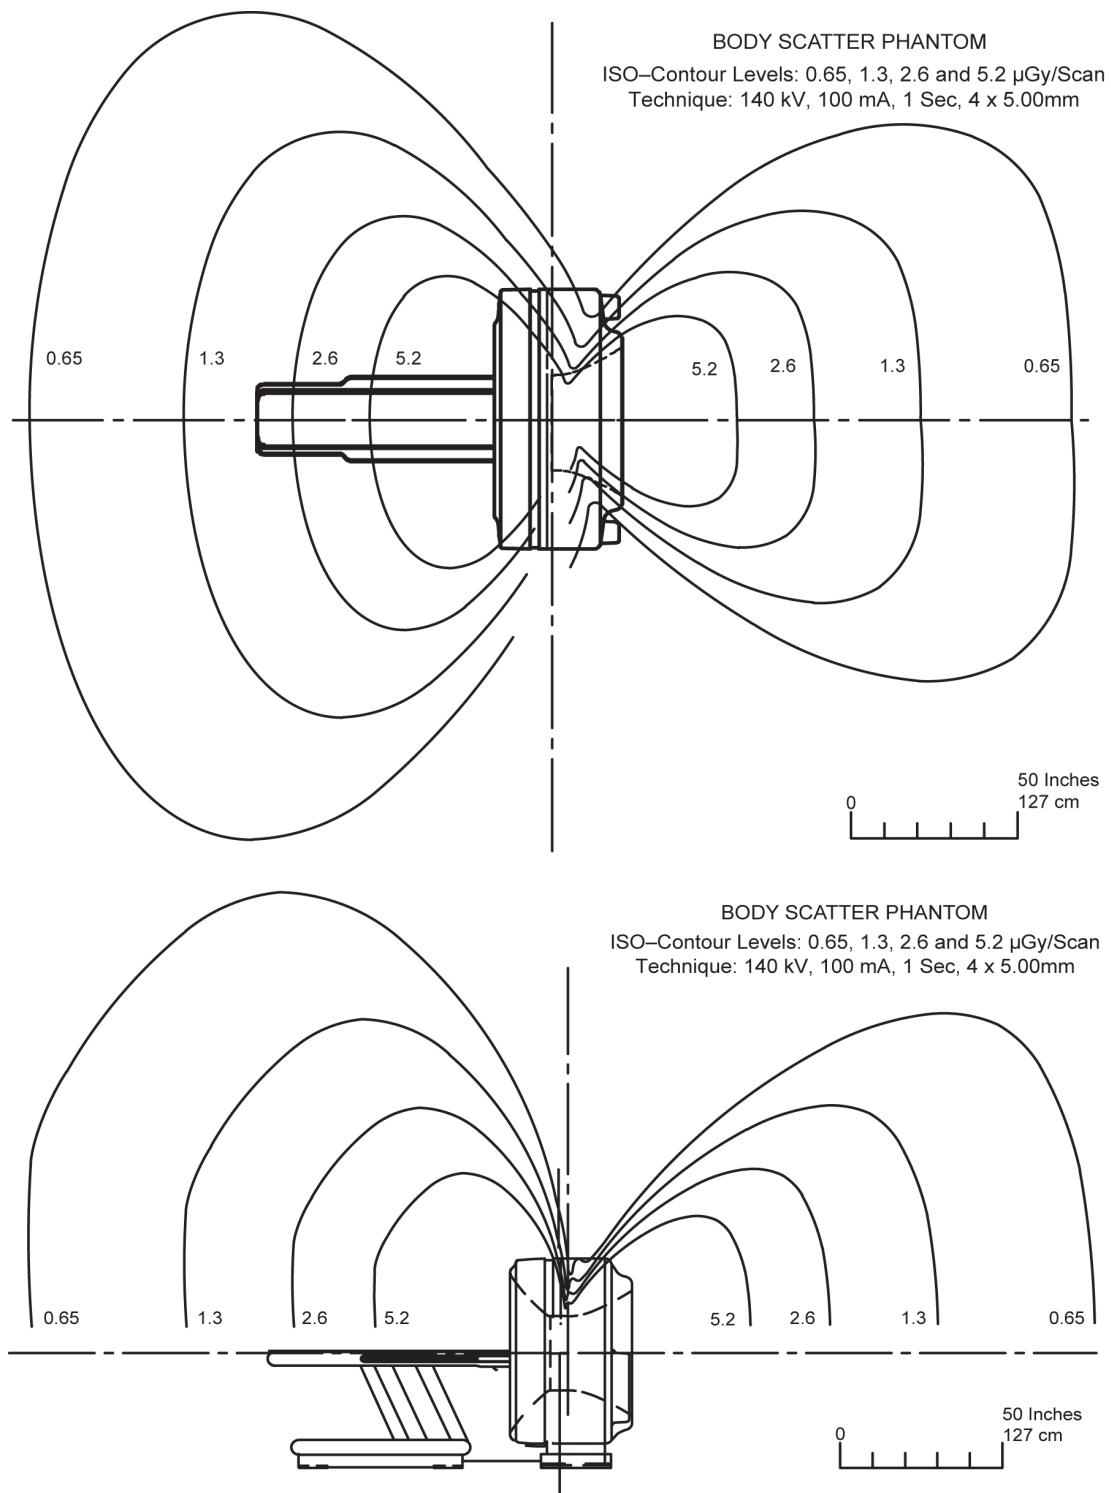

Figure 11-2 Typical Scatter Survey (Large Filter) (Optima 560, D600, D690 Elite)
- Scatter radiation levels within the scanning room. (See Figure 11-2.)